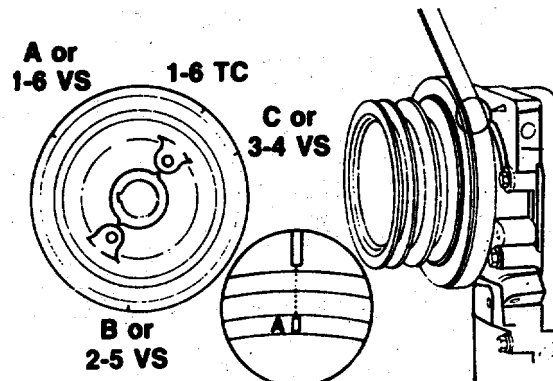

FIGURE 3-21. Aligning Pulley and Gear Pointer.
(a) Rotate the accessory drive clockwise until the "A" valve set mark on the accessory drive pulley is aligned with the point on the gear cover (FIGURE 3-21).
- (a) With the "A" valve set mark aligned with the pointer on the gear cover (FIGURE 3-21) and both valves closed on cylinder No. 5, loosen the crosshead adjusting screw locknuts on the intake and the exhaust valve crossheads for cylinder No. 5.
- (f) Adjust the intake and the exhaust valve on No. 5 cylinder before rotating accessory drive to the next valve set mark. Refer to Valve Adjustment, item (6) in this procedure.
(6) Valve Adjustment.
- (a) With the "A" valve set mark aligned with the pointer on the gear cover (FIGURE 3-21) and both valves closed on cylinder No. 5, loosen the lock nuts on the intake and the exhaust valve adjusting screws.